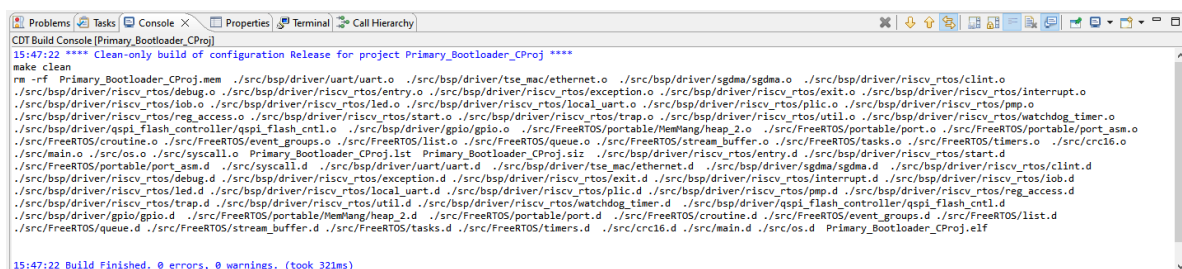

Figure C.27. Console
18. After selecting the option as shown in above fig. observe the console and wait for the process to complete to 100%. After completion, the message shown in Figure C.27 appears on the console.